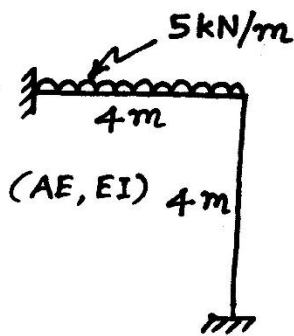

Fig. 3
- Q.3** (a) Determine joint displacements and support reactions of the plane frame shown in fig.3. Take  $EI = 30000 \text{ kNm}^2$ ,  $EA = 2 \times 10^6 \text{ kN}$ . **14**